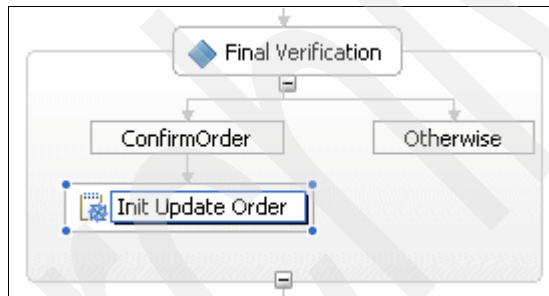

Figure 3-171 Snippet Init Update Order
1. Right-click **Empty Action**. Select **Change Type** → **Snippet**. Then, rename the snippet `Init Update Order`, as shown in Figure 3-171.